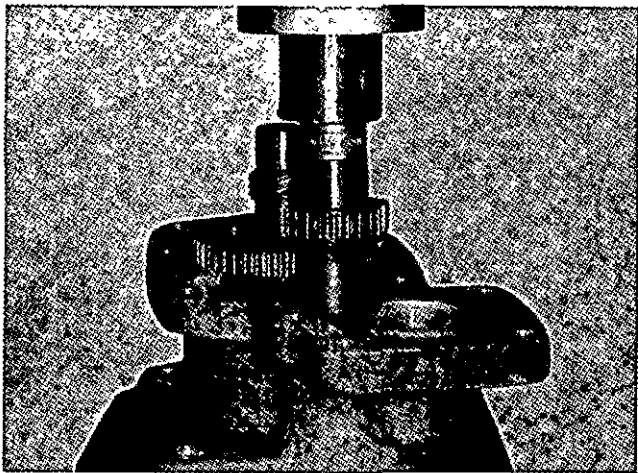

Fig. 3-19, (F5281). Press the idler gear into the cover.
5. Remove the cover from the heat and press the idle gear and bushing assembly into the cover. Press against the gear, Fig. 3-19.